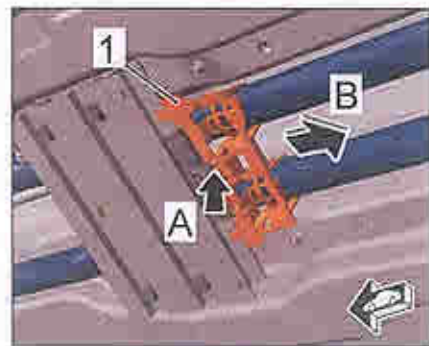

Figure 4
- 6.1 Release holder for TPM control unit ⇒ *Figure 4 -1-* at the locking lug ⇒ *Figure 4 -arrow A-* and slide it slightly to the rear ⇒ *Figure 4 -arrow B-*.